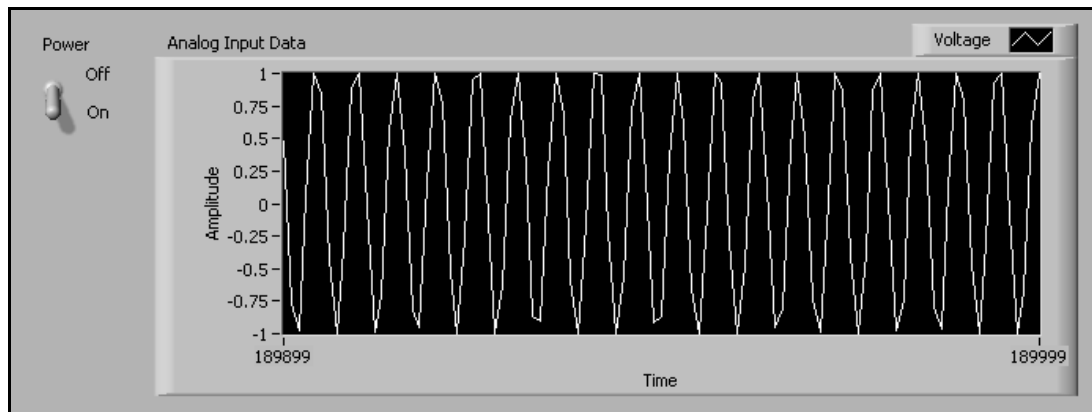

Figure 8-7. Triggered Analog Input front panel
In the following steps, you build the front panel shown in Figure 8-7.
- Add the free labels as shown in Figure 8-7.